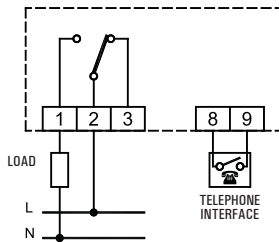

Fig. 3
3. Make the electrical connections following the connection diagram in Fig. 3.